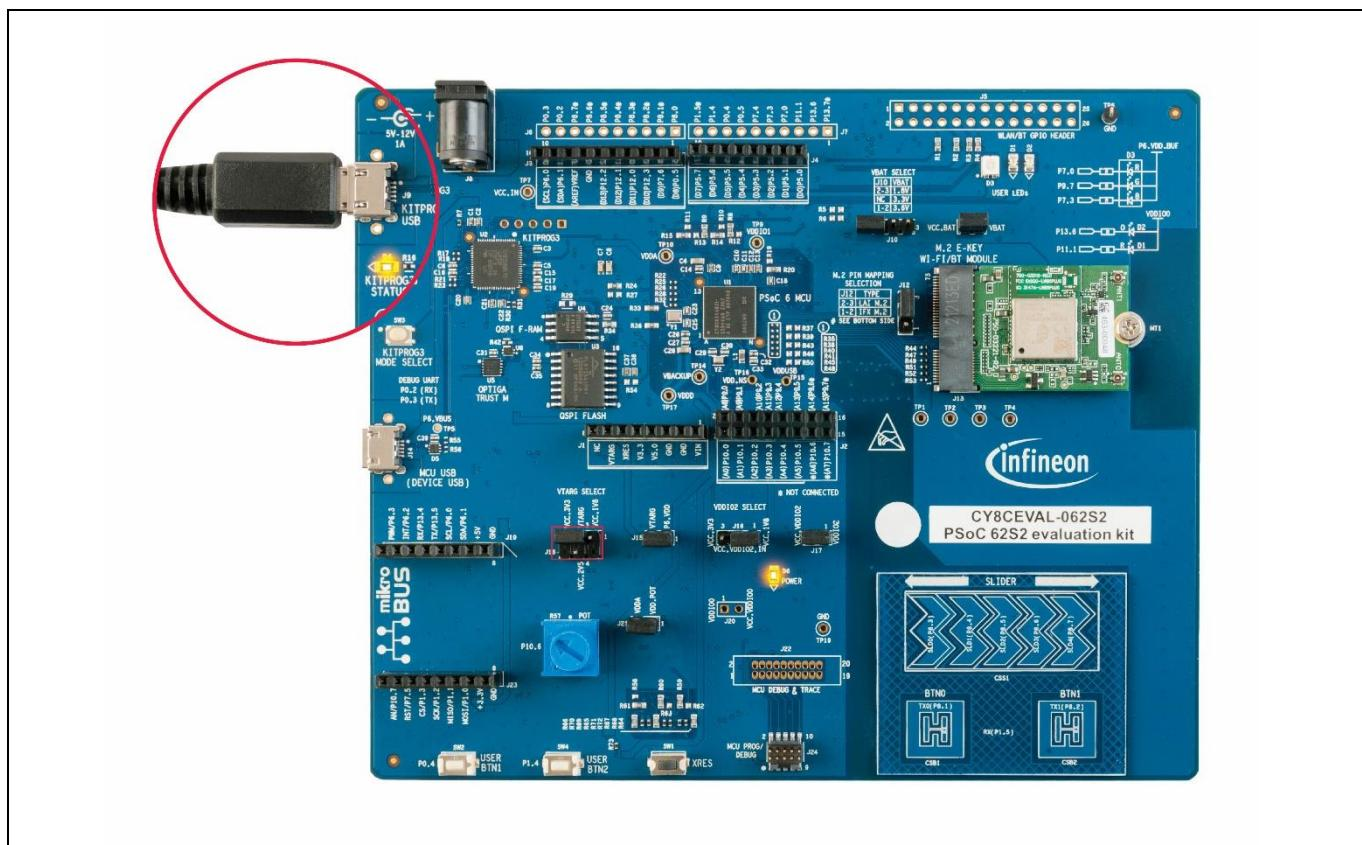

Figure 10 Connect USB cable to USB connector on the board
1. Connect the board to the PC using the provided USB cable through the KitProg3 USB connector, as shown in Figure 10. It enumerates as a USB Composite Device if you are connecting it to your PC for the first time.